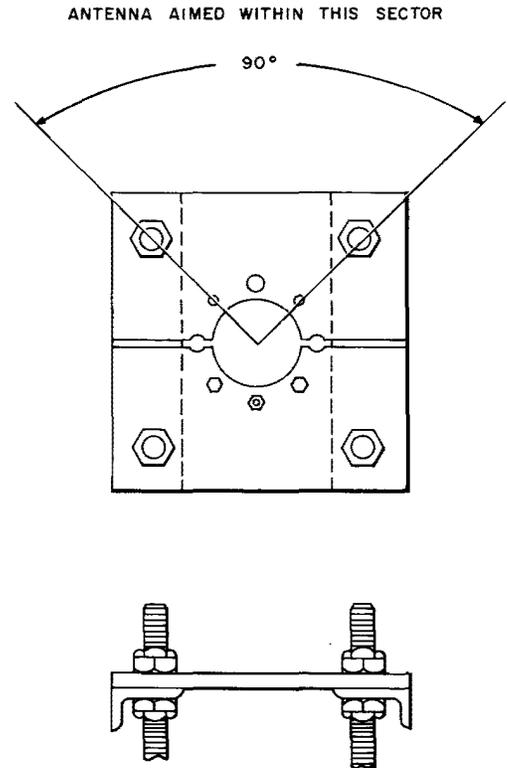
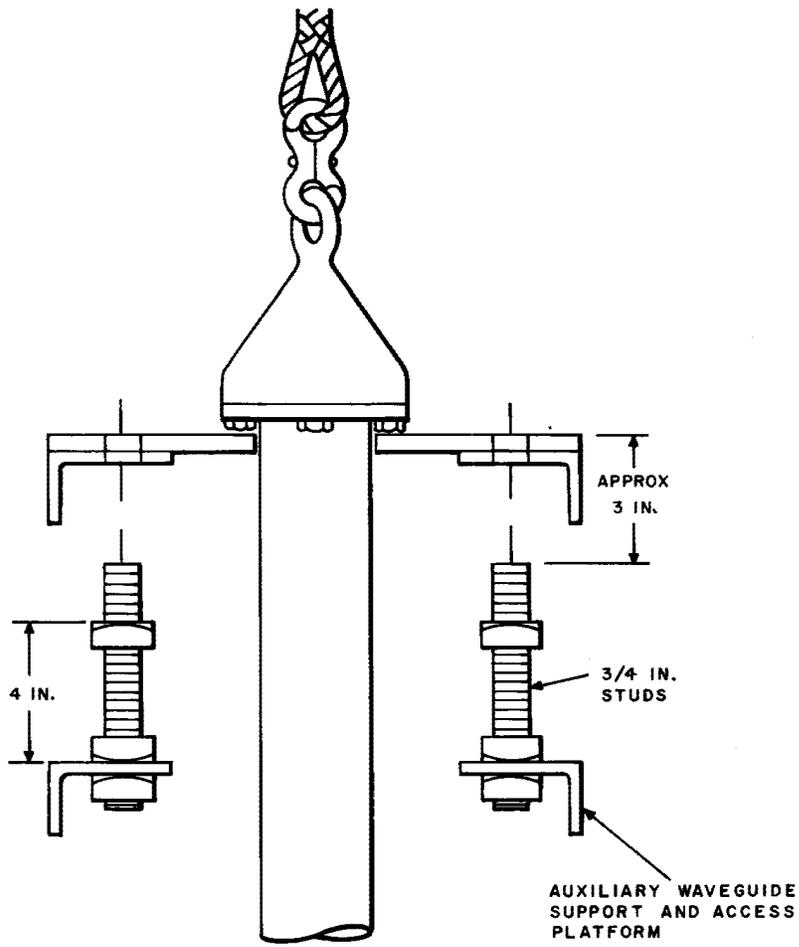

Fig. 1—Hanger Plate Orientation
Fig. 11—Installation of Split Hanger Plate
2.01 The tower-erecting crew will install the hanger plate assembly (for supporting the waveguide), the tubular waveguide restrainers, and the tower mounting angles (slot angles). The preferred hanger plate orientation is shown in Fig. 1. This crew will leave a manila line threaded through all tubular restrainers.
2.15 Raise the waveguide run until the topmost flange is about 3 inches above the top of the 3/4-inch studs. Orient the split plate as shown in Fig. 1 and bring the two pieces together around the waveguide. The square nuts which support the split plate on the studs should be approximately 4 inches above the structural members of the support platform as shown in Fig. 11.
Caution: *These four nuts should be at the same level so that when the split plate rests on them as shown in Fig. 11, it will be parallel to the waveguide flange. Since the weight of the entire run of waveguide is supported by the topmost flange of the waveguide, a uniform loading of this flange is necessary.*